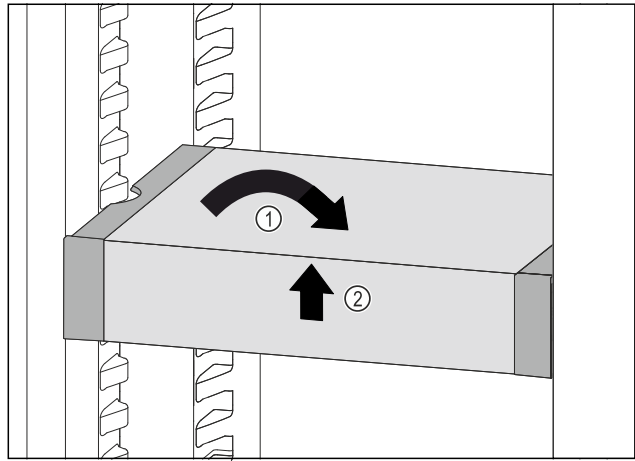

Fig. 93
- ▶ Set VarioSafe straight. Fig. 93 (1)
- ▶ Lift VarioSafe at the front. Fig. 93 (2)